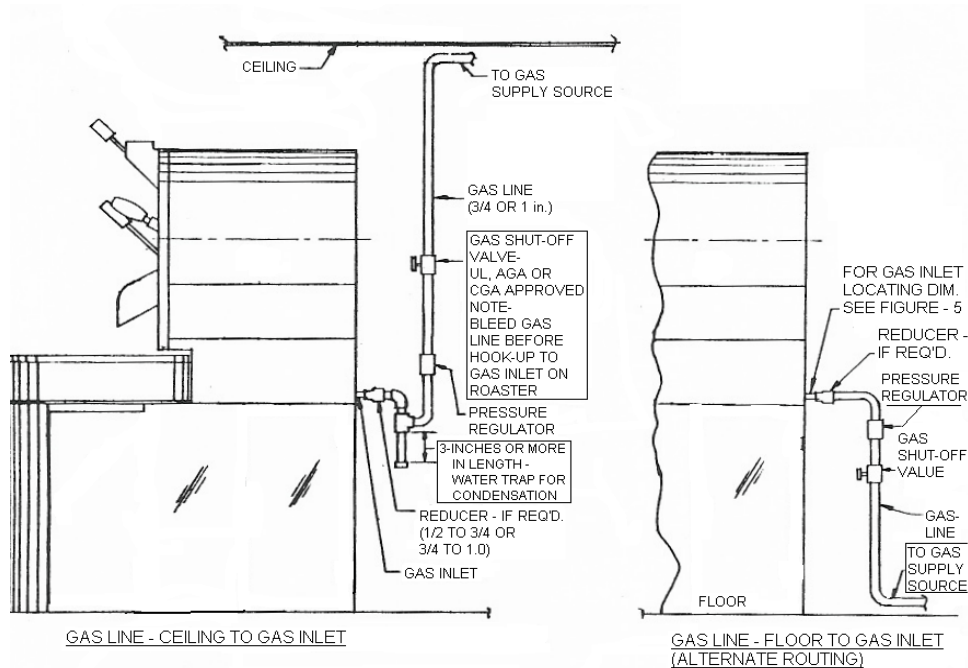

FIGURE 4 - INSTALLATION HOOK-UP FOR GAS LINE
2.4 GAS INSTALLATION - See Figures 4 & 14
A water trap to collect condensation and loose particles should be installed in the gas supply line upstream from the roaster. See Figure 4.
The roaster's factory installed regulator is preset to the pressure requirements of the roasters burners. Damage to the regulator can be caused if the incoming line pressure to the roaster exceeds 14" WCL (35 mbars). If the incoming gas pressure is in excess of 14" WCL (35 mbars), then a pressure regulator is required. Locate the regulator on the incoming gas supply line between the safety shut-off valve (See Figure 4) and the roaster's gas inlet. Diedrich Manufacturing, Inc. recommends 7" to 8" WCL (17.5 – 20 mbars) for Natural Gas and 11" to 13" WCL (27.5 – 32.5 mbars) for Liquid Propane at the roaster's gas inlet. These pressures are ideal for an optimally running roaster.